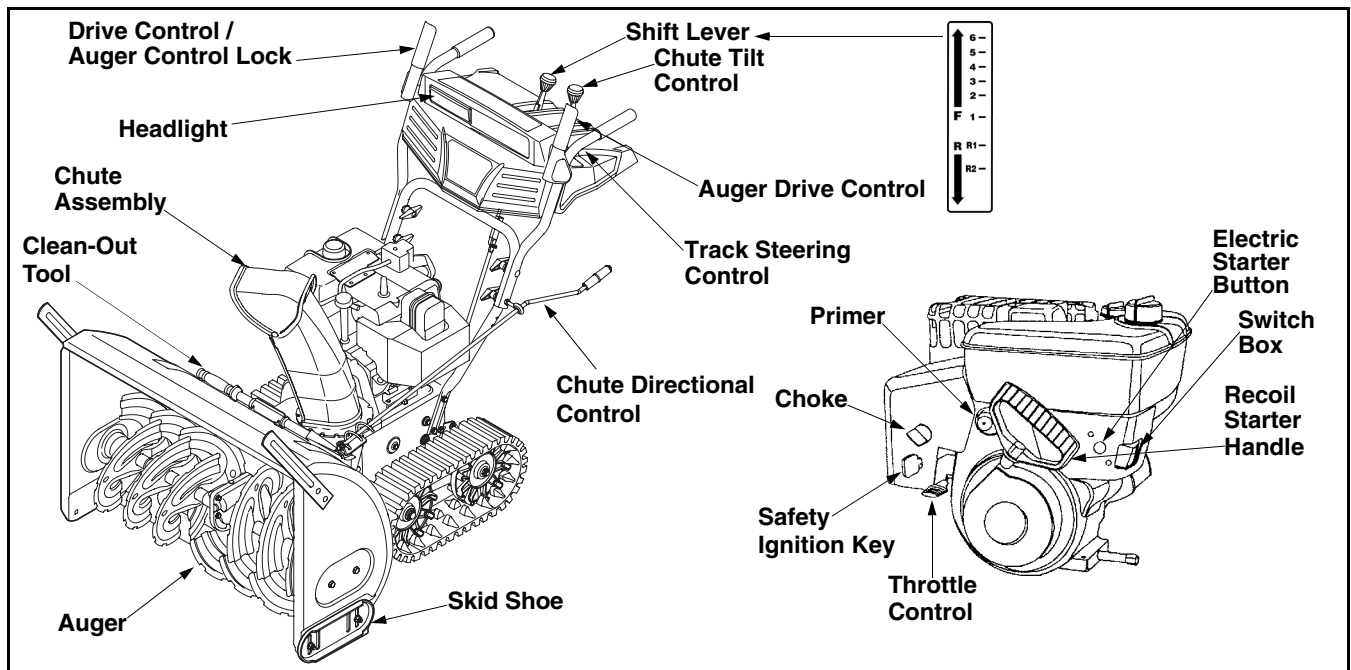

Figure 5
The drive control is located on the right handle. Squeeze the drive control to engage the wheel drive. Release to stop. See Figure 5.
The auger drive control is located on the left handle. Squeeze the control grip to engage the augers. Release to stop the snow throwing action. (Drive control must also be released.) See Figure 5.
The distance snow is thrown can be changed by adjusting the angle of the upper chute. Move the chute tilt control forward to decrease the distance, and backwards to increase distance. See Figure 5.
The shift lever is located in the center of the handle panel and is used to determine both ground speed and direction of travel. It can be moved into any of eight positions. See Figure 5.
The chute directional control is located on left side of the snow thrower. See Figure 5.
The left and right track steering controls are located on the underside of the handles and they are used to assist in steering the snow thrower. Squeeze the right track control when turning right, squeeze the left control when turning left. Operate your snow thrower in open areas until you become familiar with these controls. See Figure 5.
The throttle control is located on the engine. It regulates the speed of the engine and will shut off the engine when pushed down completely. See Figure 5.
The safety ignition key must be fully inserted and snapped in place before the unit will start. Remove the ignition key to prevent unauthorized use of equipment. See Figure 5.
- Move throttle control up to FAST position. Insert ignition key into slot and snap in place. See Figure 5. Be certain it snaps into place. **Do not turn key.**